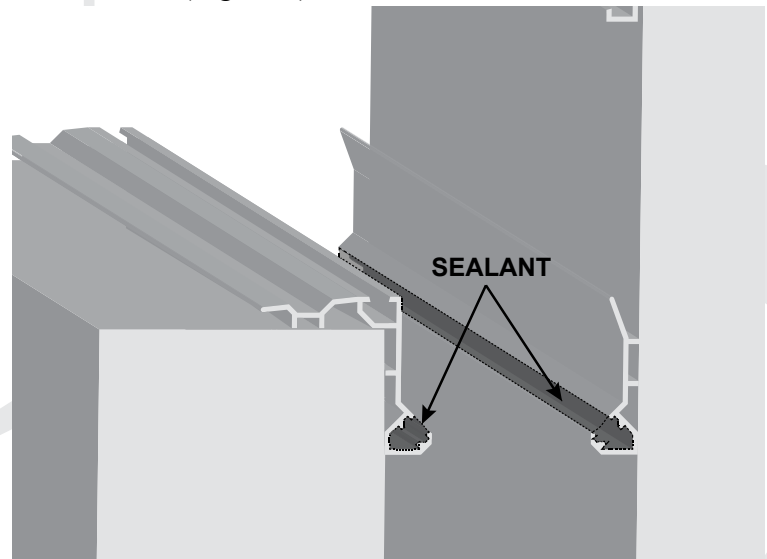

Figure 6—RW Retainer Track Sealant Placement
1. Apply a continuous bead of sealant into the lower retainer tracks of the lower base members on both sides (Figure 6).